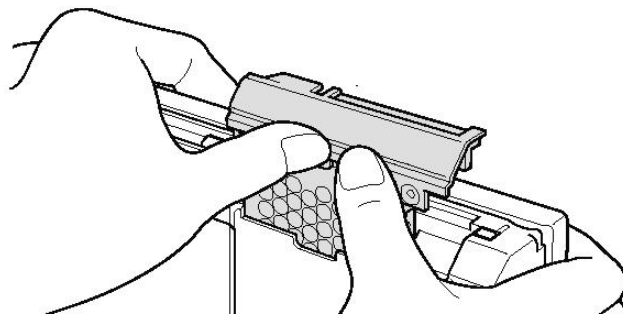

Figure 12-18.- A31p Hard Drive removal.
7. Refer to figure 12-18 for removing A31p Hard Drive | Gently pull cover and A31p Hard Drive out from the A31p Laptop to remove from slot